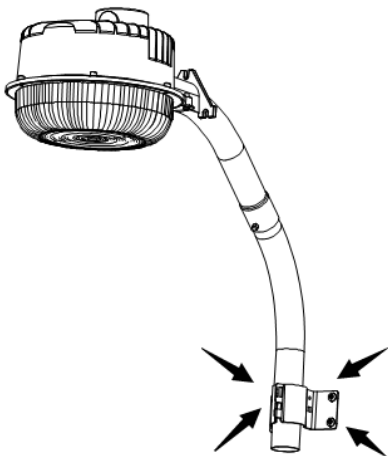

FIG.7
5. Put the safety clamp onto the base of the arm, fix the screws and ensure the arm does not rotate. (FIG.7)